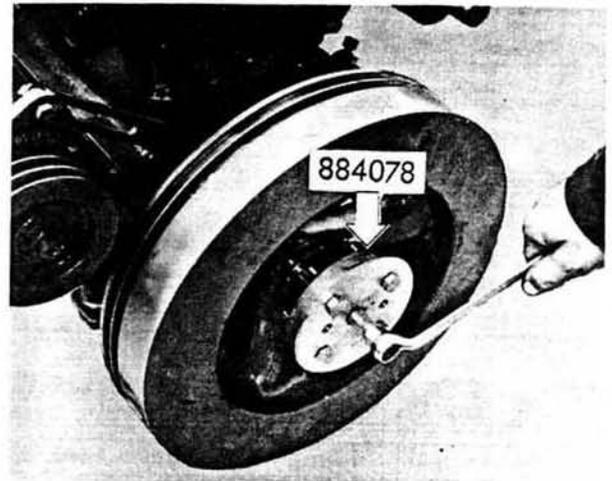

Fig. 37. Removing the flywheel.
3. Pull off the flywheel using puller no. 884078, see Fig. 37.